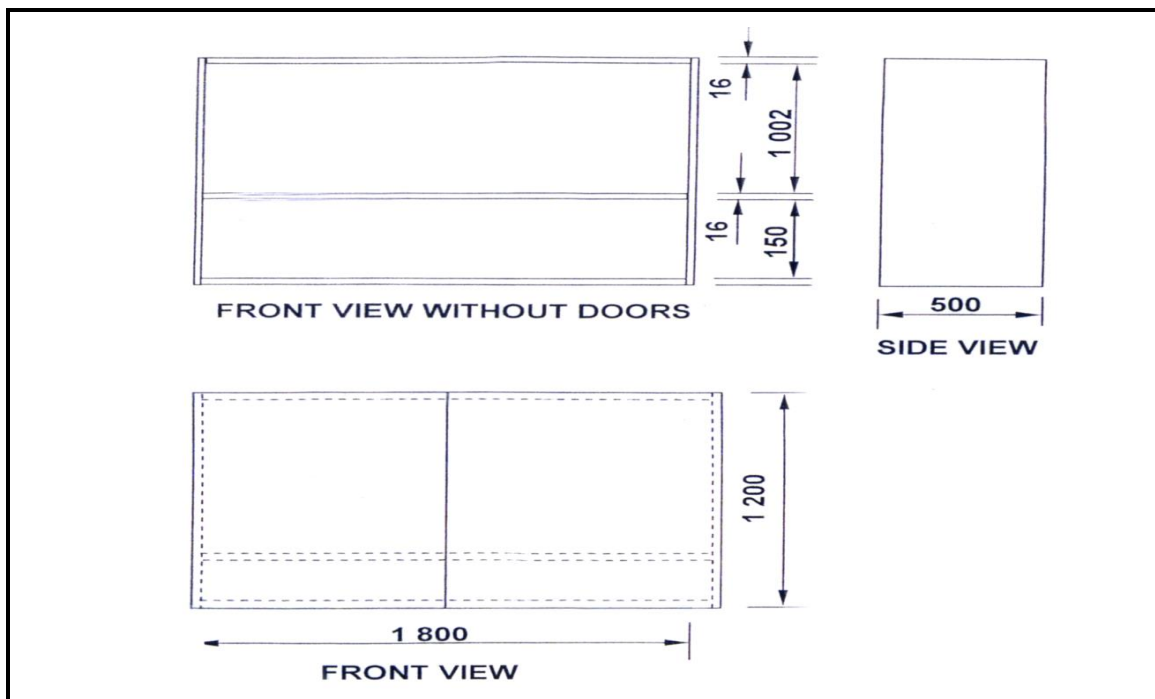

FIGURE 3.2
- 3.2 FIGURE 3.2 shows a drawing of a wall-mounted cabinet made out of 16 mm thick melamine chipboard, with a 3 mm thick hardboard back. Butt joints are used in the construction of the cabinet.